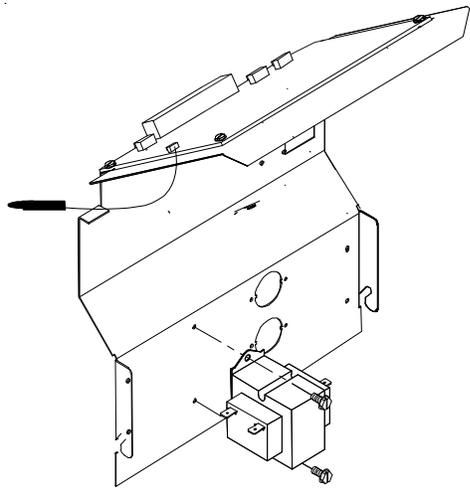

Figure 11
2. Lift the control panel up so the control panel is free of its hinges. Orient the control panel so there is easy access for mounting components to the control panel (Figure 11).